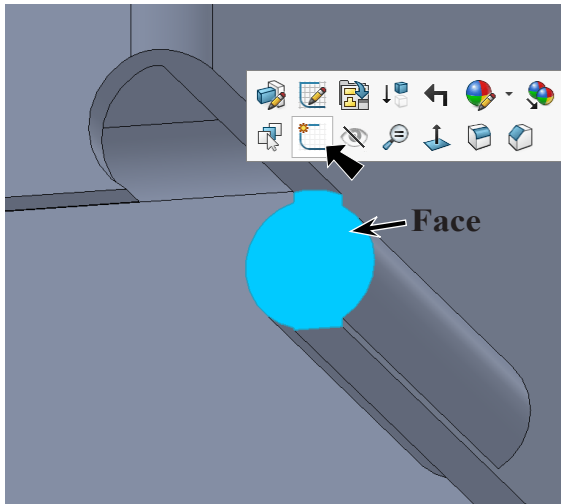

Fig. 13
Step 1. Click the **side face of hinge** and click **Sketch**  on the context toolbar, **Fig. 13**.